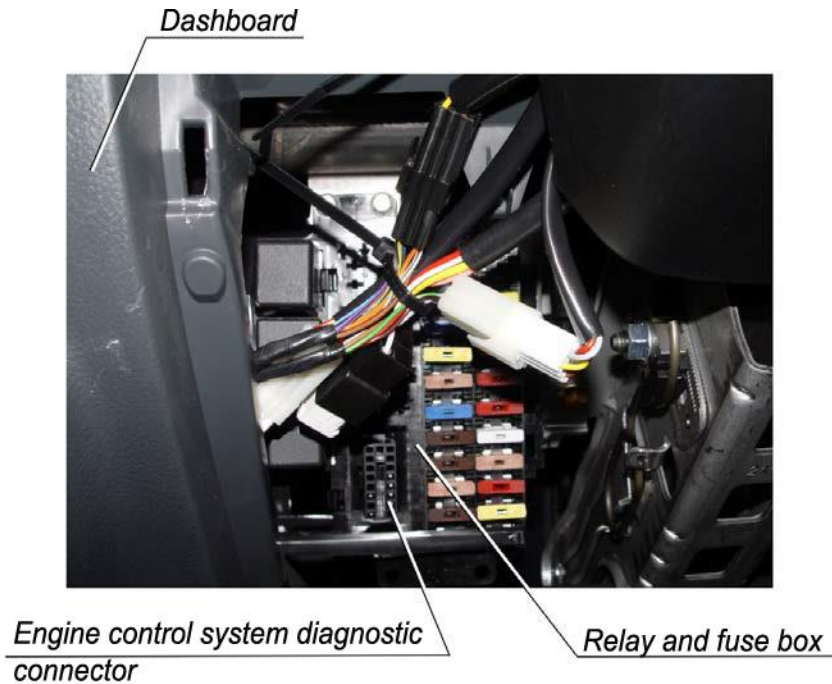

Fig. 7.52. Engine control system diagnostic connector
- connect the diagnostic adapter to the engine control system diagnostic block (Fig. 7.52), while the instrument and starter switch key must be in position “0”;